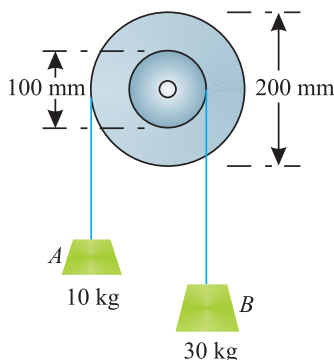

Fig. 31.12.
**Example 31.13.** Two bodies A and B of masses 30 kg and 10 kg are tied to the two ends of a light string passing over a composite pulley of radius of gyration as 70 mm and mass 4 kg as shown in Fig. 31.12.